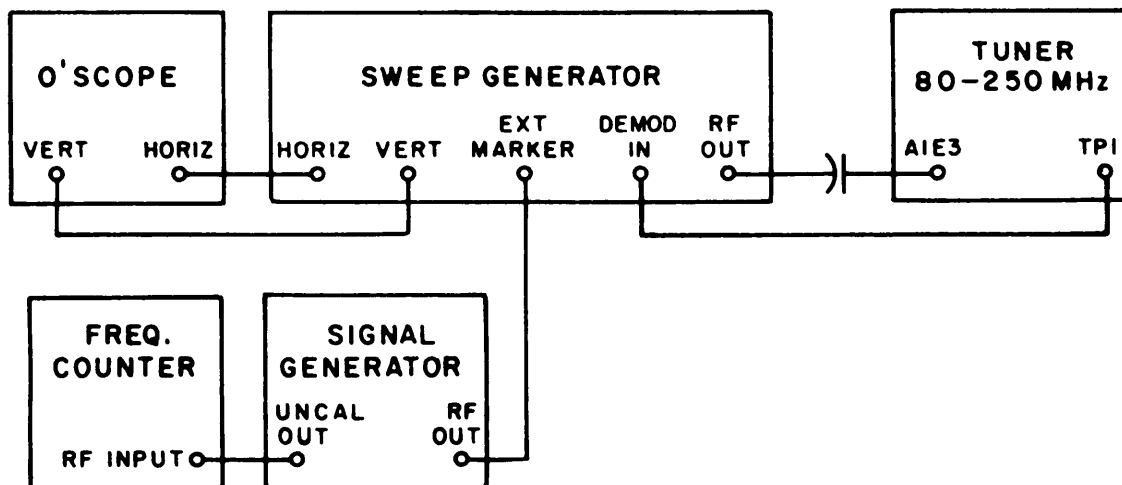

Figure 4-5. Test Setup, 80-250 MHz Tuner, RF Interstage Alignment Circuit Connection
- (1) Connect the circuit as shown in Figure 4-5.
- (2) Set the oscilloscope to AC unless a DC offset is connected to Neg. input.
- (3) Set the IF marker to 21.400 MHz.
- (2) Set the sweep generator to a frequency of 120 MHz.
- (3) Rotate the Inductuner Shaft Until a response is displayed on the oscilloscope.
- (4) Adjust trimmer capacitor C21 until the LO/IF marker is centered on the response curves peak.
- (5) Readjust the sweep generators frequency to 80 MHz.
- (6) Rotate the Inductuner Shaft fully CCW until a response is displayed on the oscilloscope.
- (7) Adjust the padder inductor L9 until the LO/IF marker is centered on the response.
- (1) Connect the circuit as shown in Figure 4-5 except with the following change: connect the sweep generators RF output to the tuners RF input jack, J1.
- (2) Adjust the sweep generator to 250 MHz.
- (3) Rotate the Inductuner Shaft fully CW and adjust C5 for a maximum amplitude response at the marker.